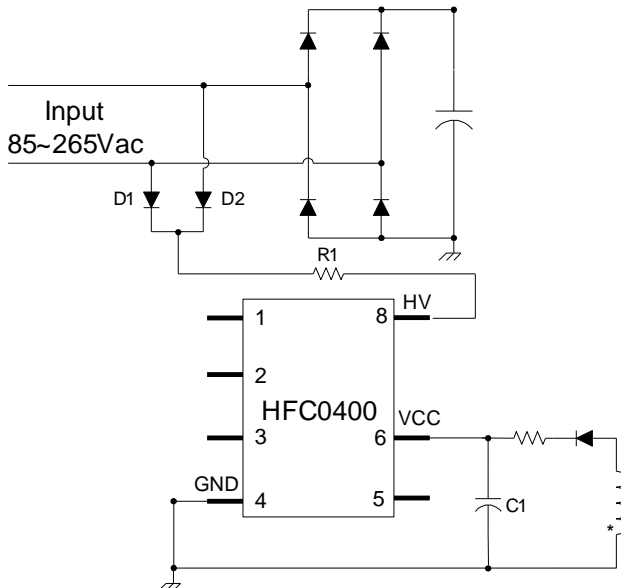

Figure 11: Start-Up Circuit
Figure 11 shows the start-up circuit. The values of R1 and C1 determine the system start-up delay time: a larger R1 or C1 increases the start-up delay. The V_{CC} duration (from V_{CC,OFF} to V_{CC,SS}) for brown-out detection should exceed half the input period, equation (4) provides an estimated value for the V_{CC} capacitor, where I_{CC(noswitch)} is the internal consumption (close to I_{CC(latch)}) and τ_{input} is period of the AC input. For most applications, chose a V_{CC} capacitor value that exceeds 10μF.